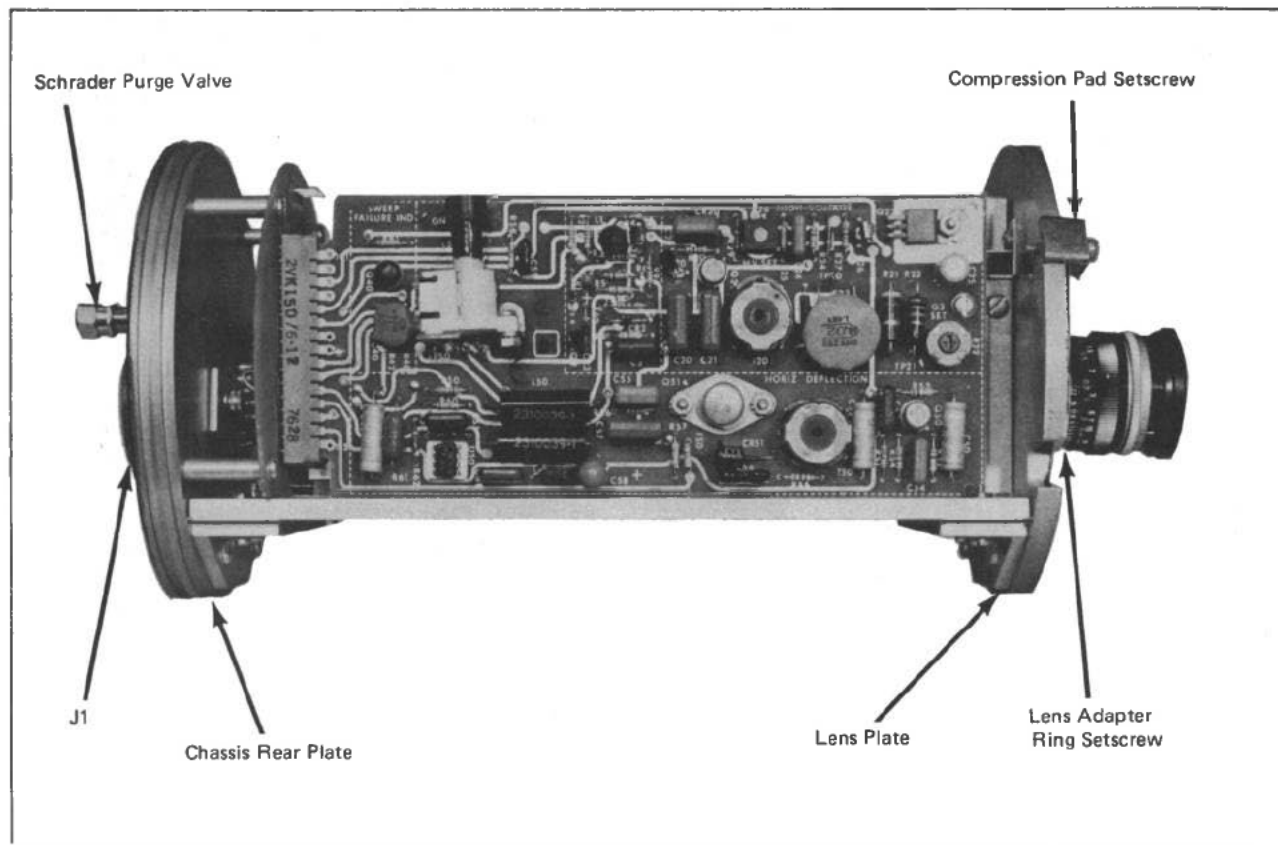

Figure 1-9. Interior View of Camera Showing Compression Pad Setscrew.
2. Loosen compression pad setscrew at top edge of camera chassis vertical support using hex wrench through front end opening of camera barrel (see Figure 1-9)
5. Locate threaded lens adapter ring installed in lens well. Loosen setscrew (Figure 1-9) locking adapter ring in place and remove ring from lens well by turning it counterclockwise.
compression pad setscrew located on top edge of chassis front end vertical support (Figure 1-9).